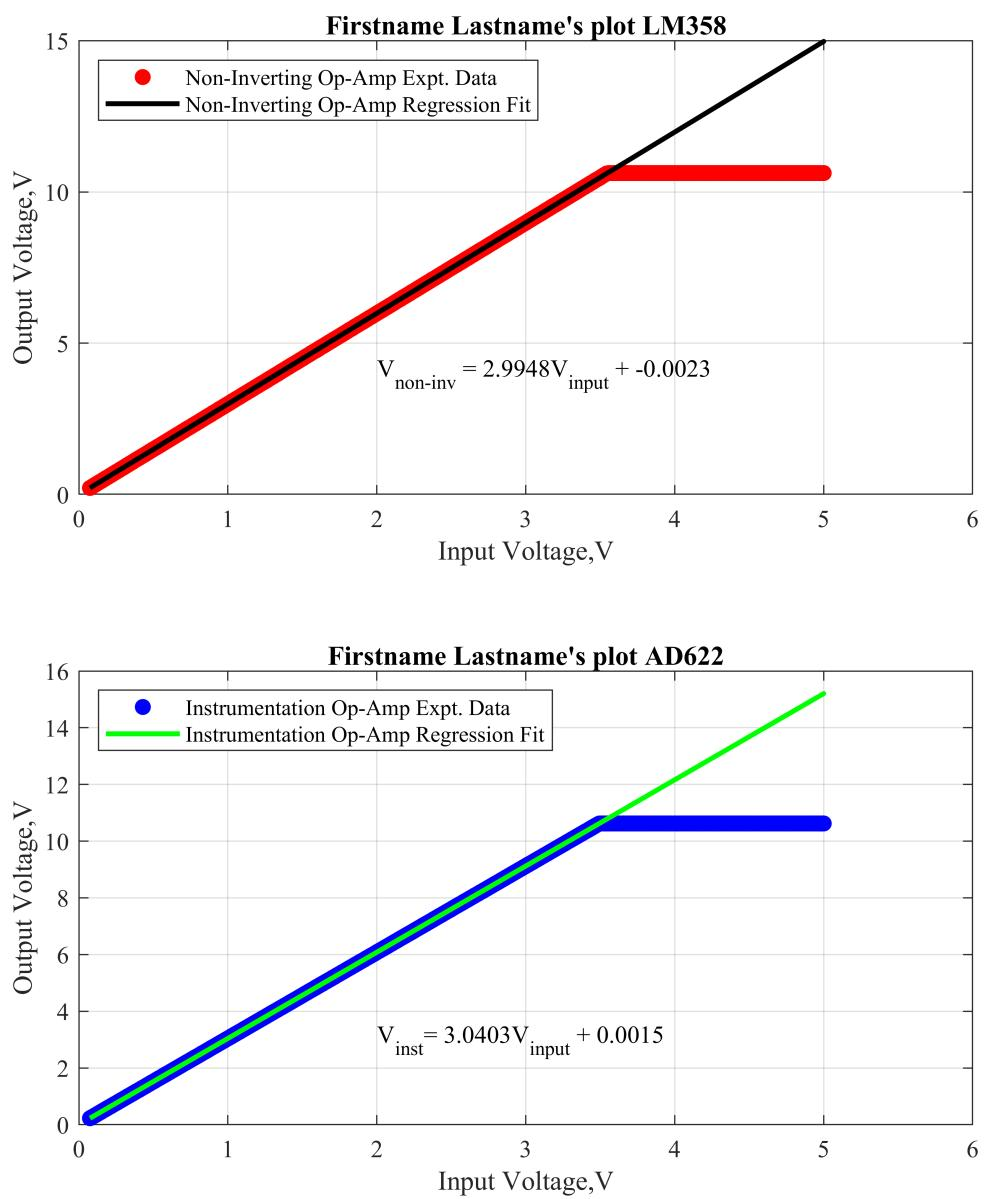

Figure 4: Sample plot for post-lab.
- Compare your plots to the example plots shown in figure 4 to confirm that you have completed the assignment correctly. Note that your values will differ, but your formatting and annotation should match.